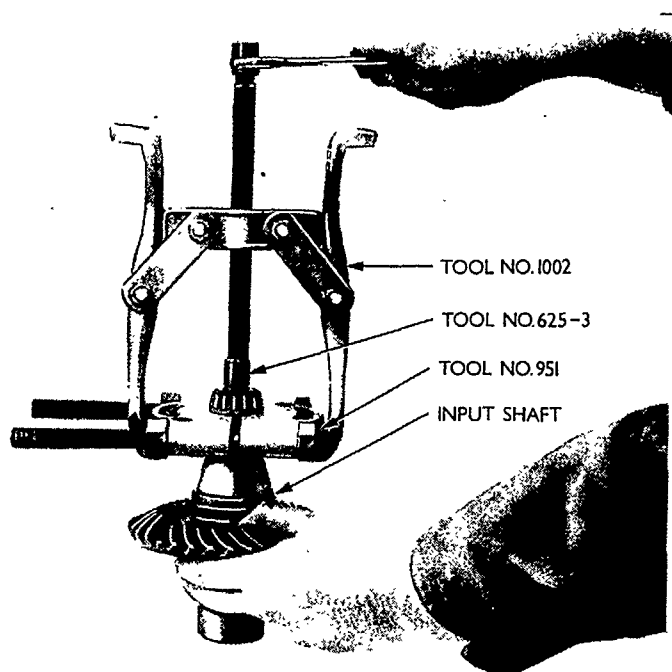

Figure 8
2. Inspect input shaft bearing cone and roller assemblies for excessive wear or damage. Renew if necessary using Tools Nos. 951 and 1002 to remove the bearings, Figure 8. Adaptor 630-3 will be required in addition to remove the forward bearing. Install the bearings using a suitable sleeve.